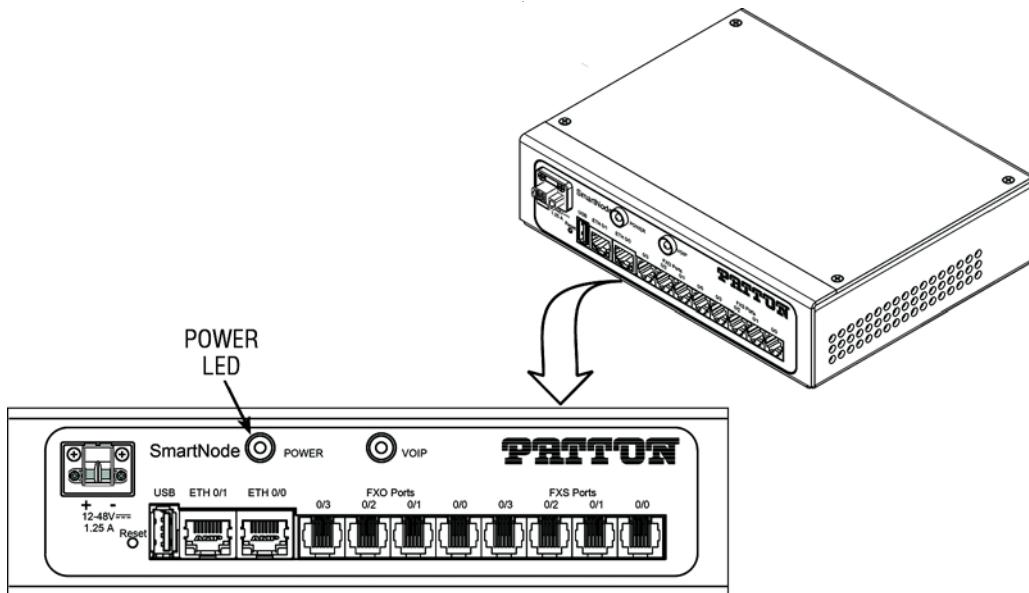

Figure 11. Power LED
5. Verify that the green *POWER* LED is lit (see figure 11 on page 35). It blinks quickly during bootloader phase and blinks slowly during the boot process. It stay lit constantly when the system is up and running.
6. Verify that the green *POWER* LED is lit (see figure 11 on page 35). It blinks quickly during bootloader phase and blinks slowly during the boot process. It stay lit constantly when the system is up and running.